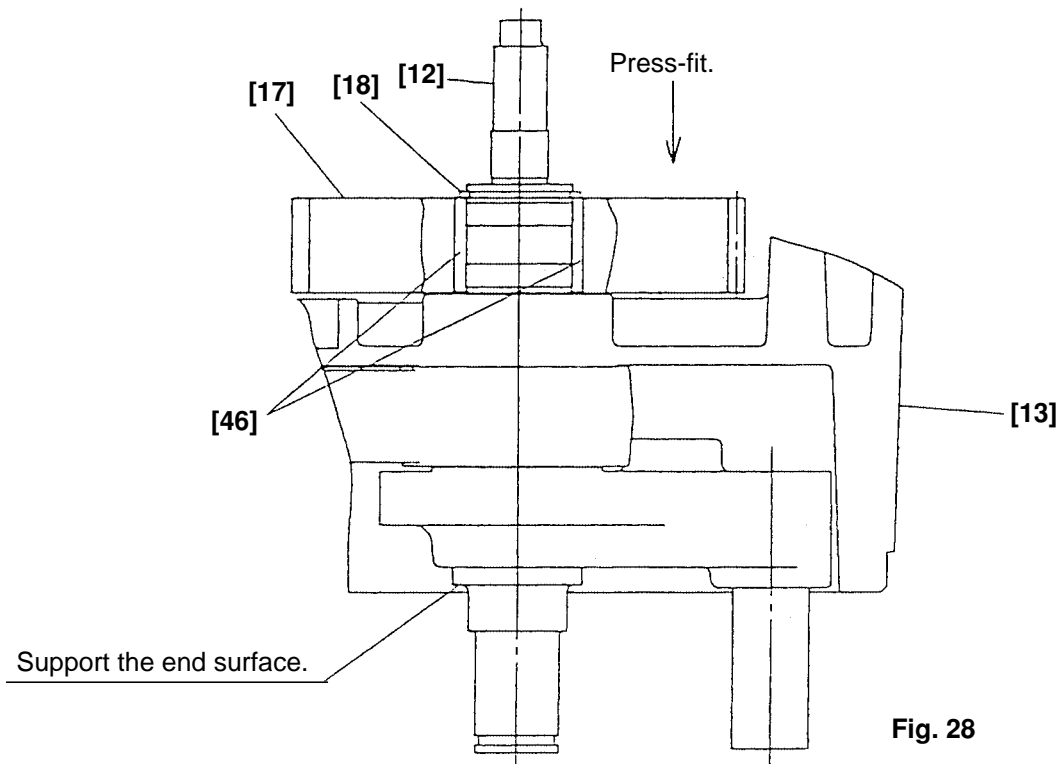

Fig. 28
(9) Installation of Final Gear [17] (Fig. 28)